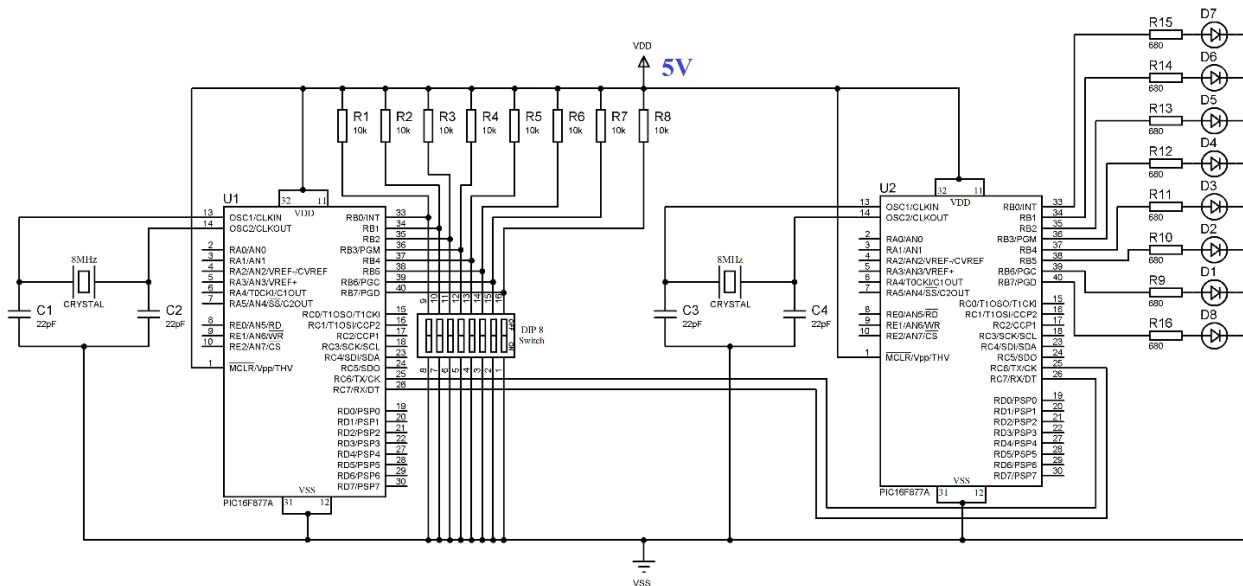

Figure 2(c)
c) Figure 2(c) shows the PIC16F877A to PIC16F877A communication via Universal Synchronous Receiver Transmitter (UART). Describe the UART communication between these two PIC microcontrollers. State on the typical baud rate used for this communication. Assume the communication protocol used is 8N1. (7 marks)